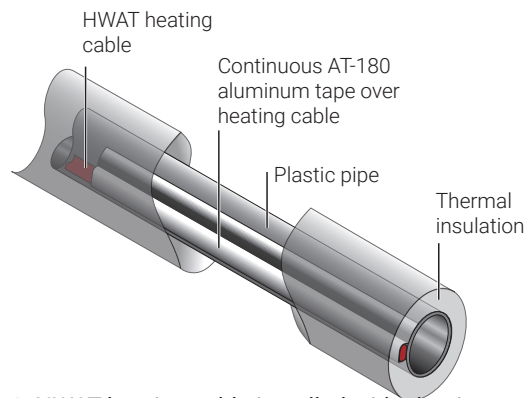

Fig1. HWAT heating cable installed with aluminum tape
1. Secure the HWAT heating cables to the plastic pipe with aluminum tape continuously along its length, as shown in Fig. 1.